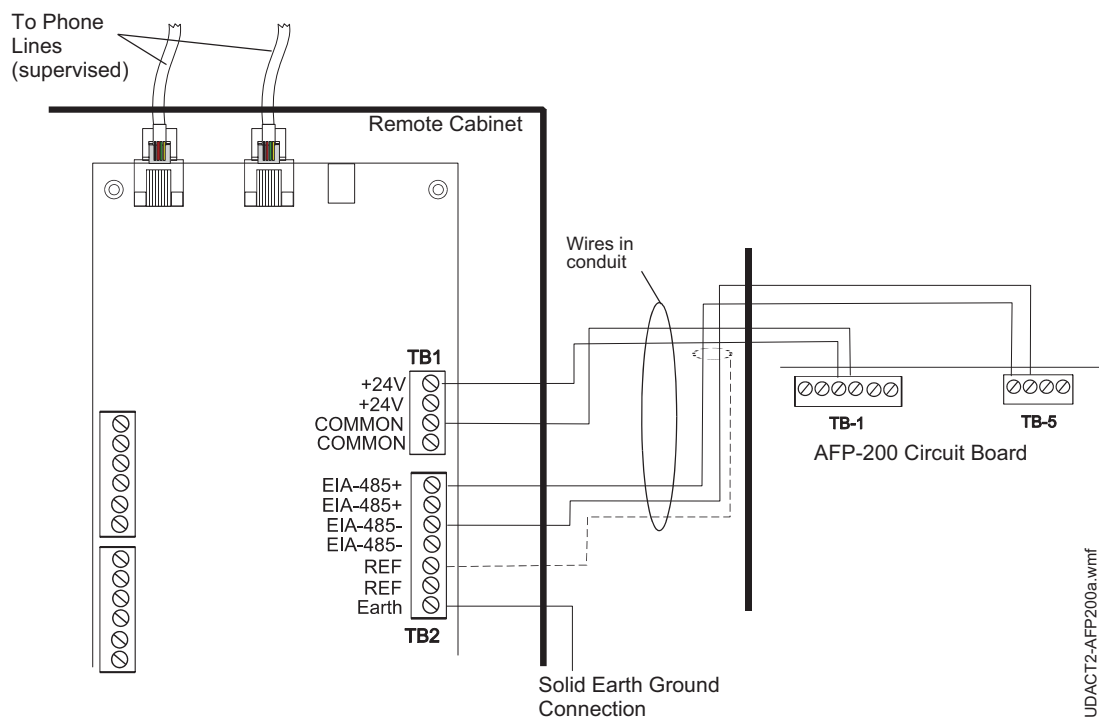

Figure A.1 UDACT-2 and AFP-200
Refer to Figure A.1.
1. Recommended wire is 12 AWG (3.25mm²) to 18 AWG (0.75mm²) twisted pair, shielded cable. Connect only one end of shield: shield may be connected to a Common Terminal at TB2 on the UDACT-2 as shown in Figure A.1.